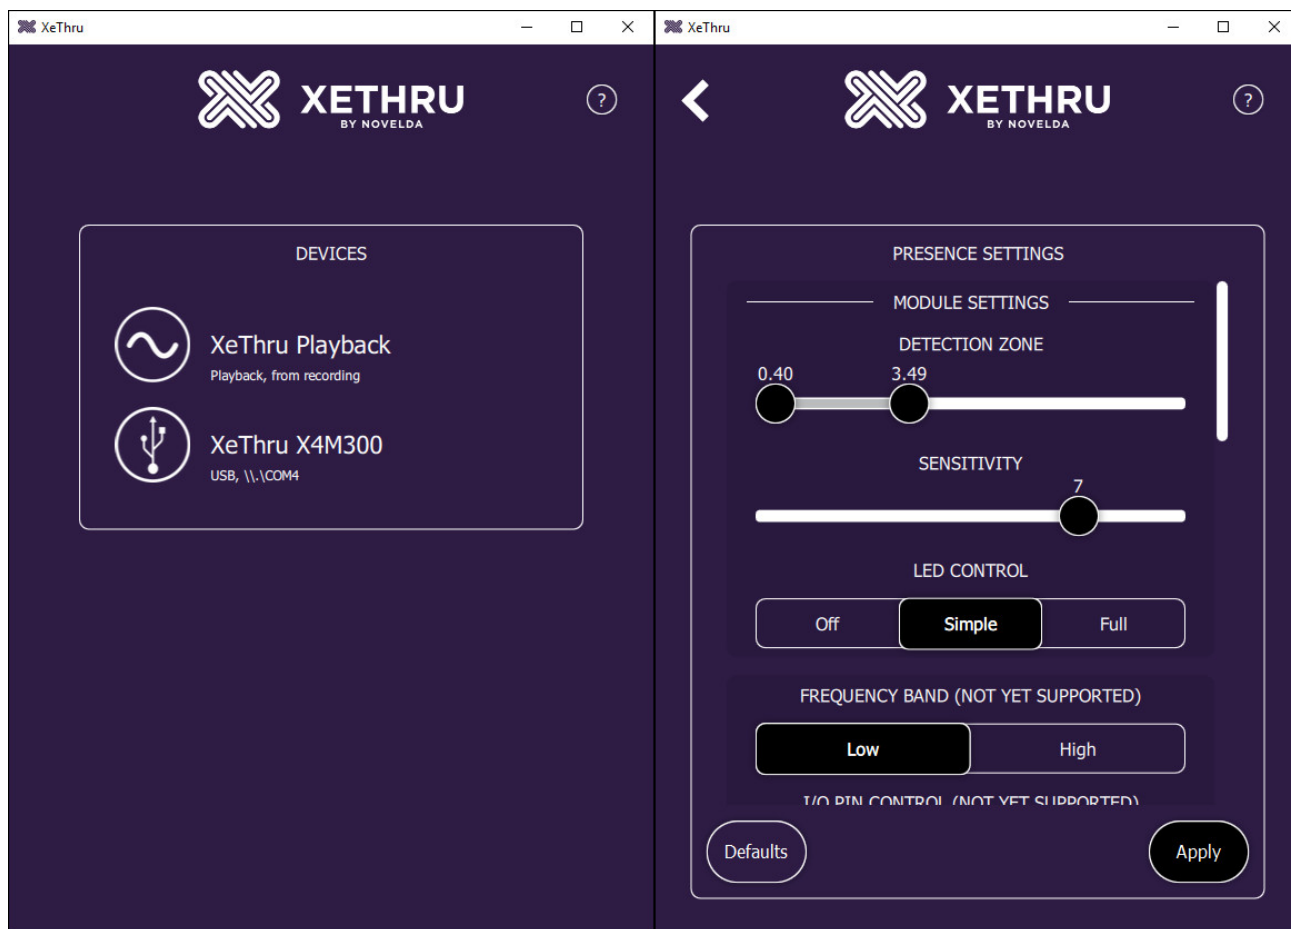

Fig. 3. XeThru Explorer device select and settings menu.
- XeThru explorer shows the user which device port the module is connected to, see Fig. 3.
- Playback of recordings is done by clicking "XeThru Playback" after starting XeThru Explorer, see Fig. 3